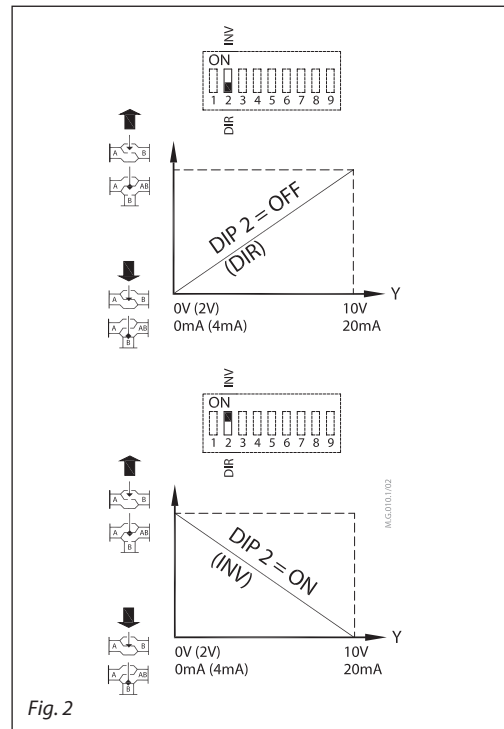

Fig. 2
**DIP2: DIR/INV – Direct or inverse acting selector (Fig. 2):**